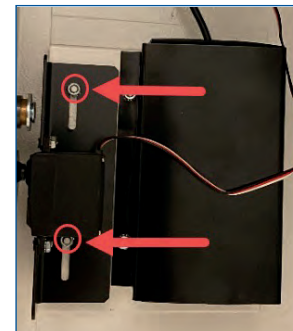

Fig. 5
4. Using a 7mm socket, remove the two (2) 7mm nuts securing the servo motor bracket from the mounting plate (Fig. 5).